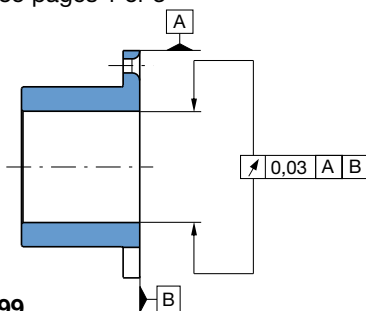

Fig. 99
- Shaft run-out and axial run-out tolerances: 0,03 mm (Fig. 99)